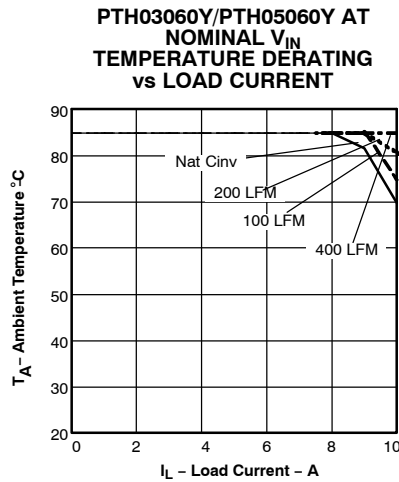
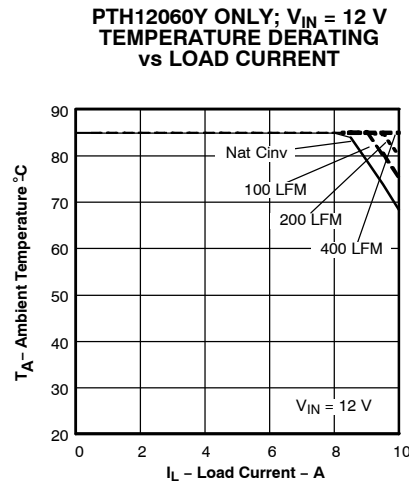

Figure 4.
Figure 5.
- (2) The temperature derating curves represent the conditions at which internal components are at or below the manufacturer's maximum operating temperatures. Derating limits apply to modules soldered directly to a 4 x 4 in double-sided PCB with 1 oz. copper. For surface mount packages (AS and AZ suffix), multiple vias (plated through holes) are required to add thermal paths around the power pins. Please refer to the mechanical specification for more information. Applies to Figure 4, and Figure 5.